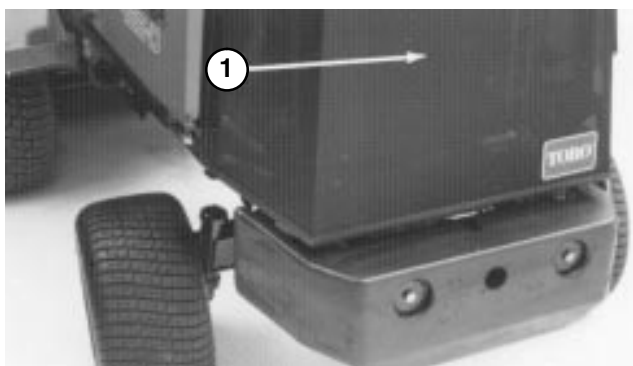

Figure 31
ENGINE COOLING SYSTEM (Fig. 31–32)
B. Unscrew knobs and remove rear screen (Fig. 31). Clean screen thoroughly.